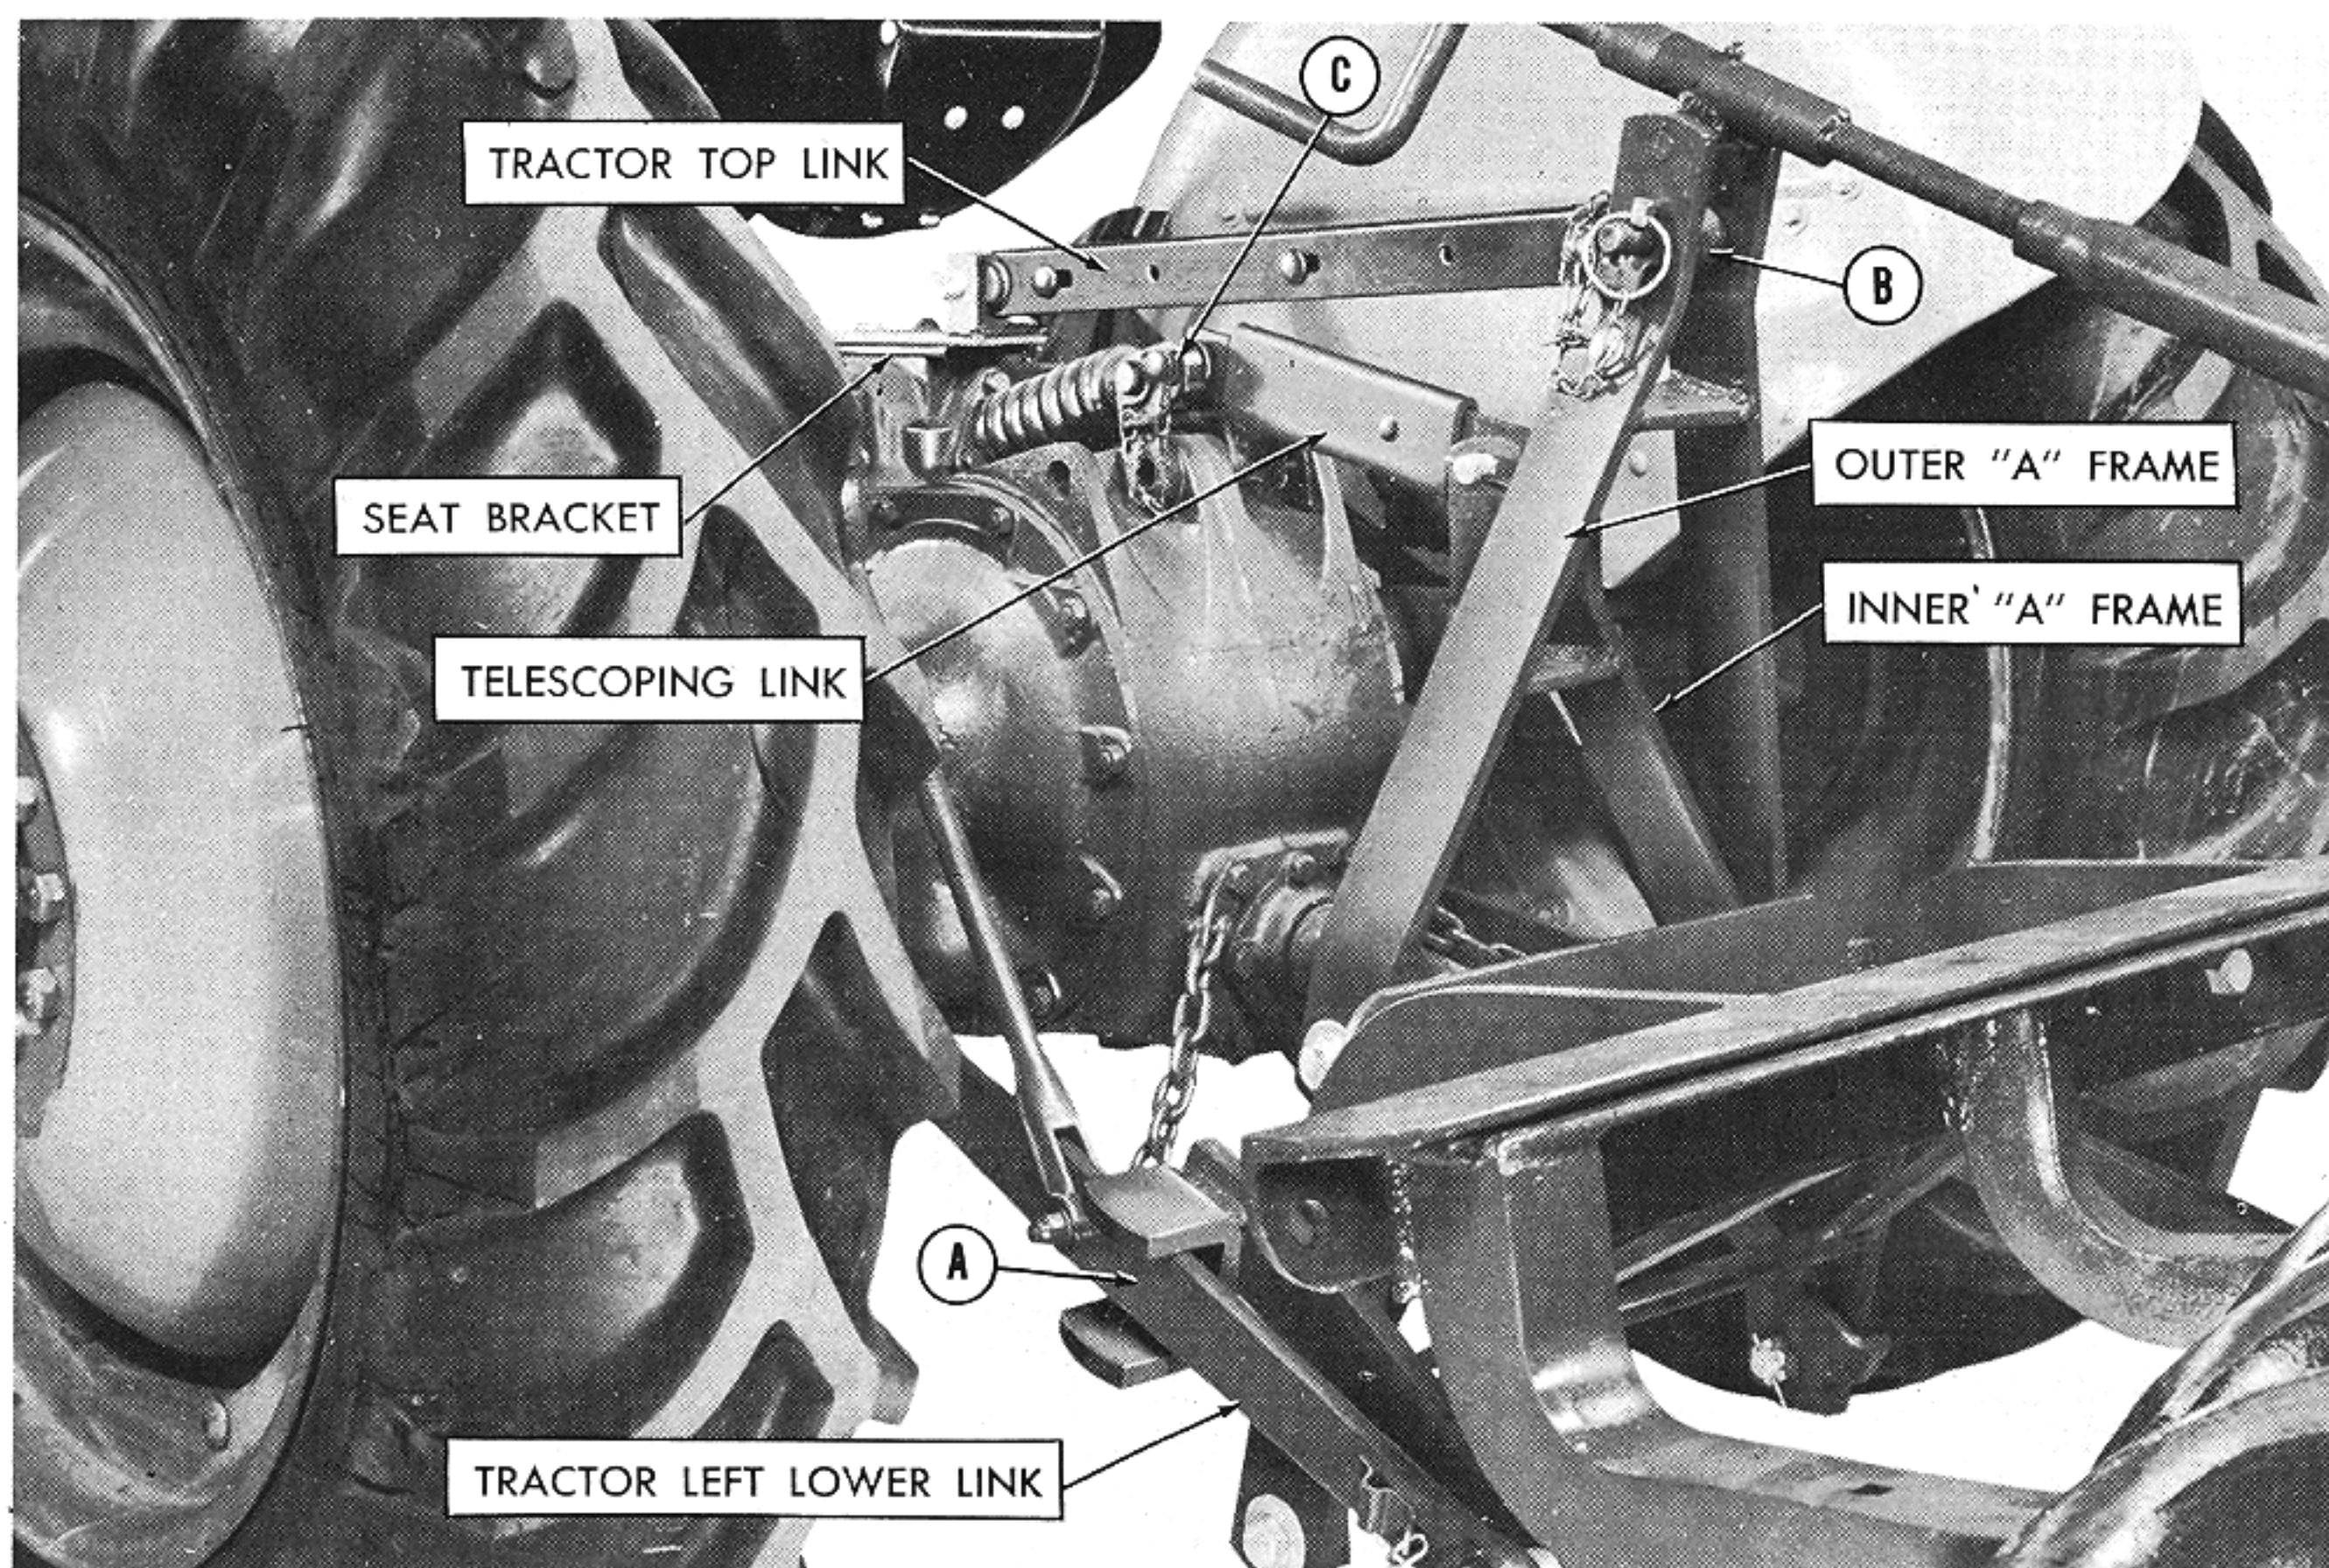

Figure 12
2. Attach the left lower link to the link pin and secure with linch pin as shown in Figure 12. Note that the link fits between the ends of the link retaining bracket at point "A". See Figure 12.
4. Release the tractor end of the tractor top link from the tractor control spring yoke and attach it to the seat bracket with pin and quick release pin. See Figure 12.
5. Attach other end of the tractor top link to the outer "A" frame at "B" and secure with linch pin as shown in Figure 12.